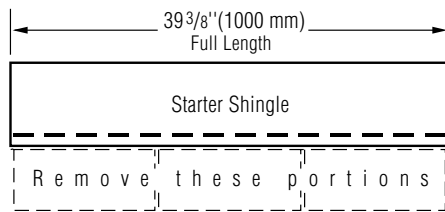

Figure 10-13: Make starter shingles by removing the lower tabs.
1. Use CertainTeed Swiftstart® or a starter course consisting of the shingles from which the lower tabs have been removed (*Figure 10-13*). Remember, the sealant on starter courses should lay as close as possible to the eaves edge of the roof.
3. Continue with full-length starter-course shingles along the eaves. (*Figure 10-13*).
1. Use CertainTeed Swiftstart or a starter course consisting of the shingles from which the lower tabs have been removed (*Figure 10-13*). Remember, the sealant on starter courses should lay as close as possible to the eaves edge of the roof.
- Use CertainTeed Swiftstart® or a starter course consisting of the shingles from which the lower tabs have been removed (*Figure 10-13*). Remember, the sealant on starter courses should lay as close as possible to the eaves edge of the roof.